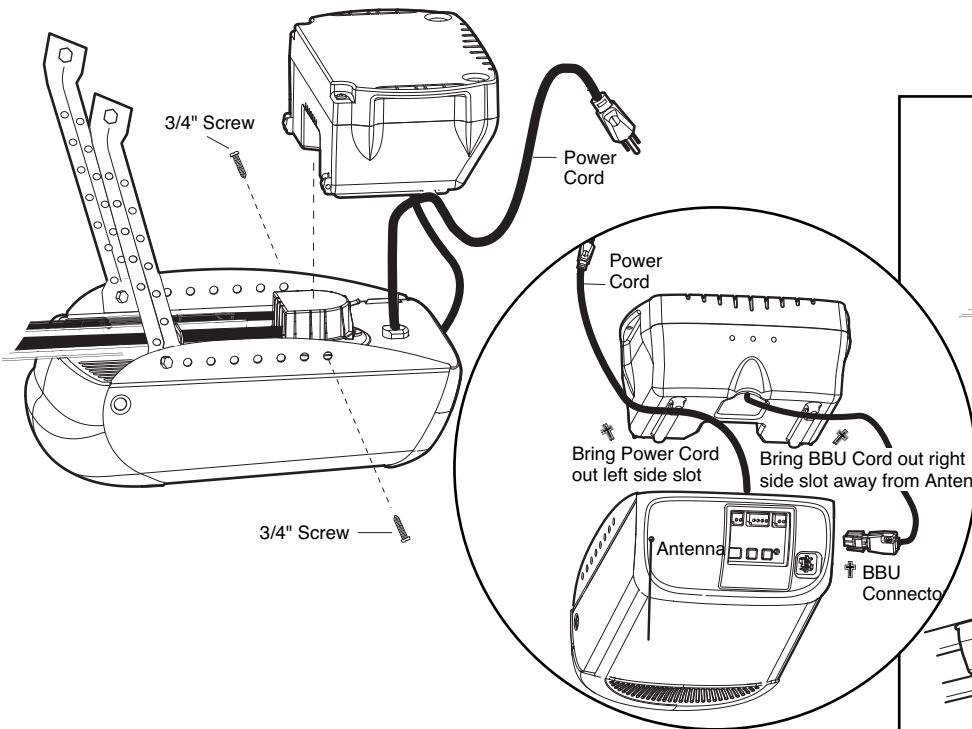

Figure 1
- Position the BBU on top of the motor unit. Make sure the motor unit power cord is drawn out from beneath the BBU. The BBU should sit firmly on top of the motor unit. Adjust angle iron placement so that it is out of the way of the BBU's installation (*Figure 1*).